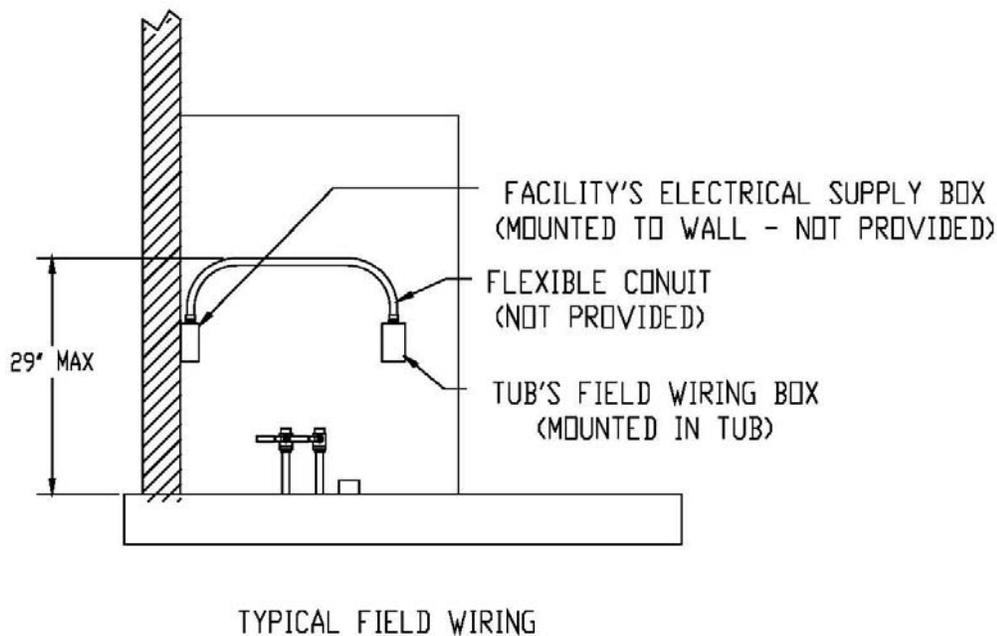

Figure 11
5. Once the tub is in place, anchor the tub with a lag screw and washer through the provided anchor hole as shown in figure 11. **DO NOT OVER-TIGHTEN THE LAG SCREW.**